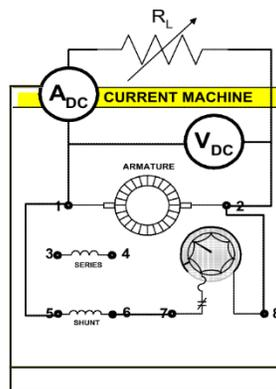

FIGURE 12.11
Step 3: a) Using your EMS DC Motor/Generator, the Data Acquisition Interface (DAI) modules in the EMS workstation and Resistance Modules, connect the circuit shown in Figure 12.11.